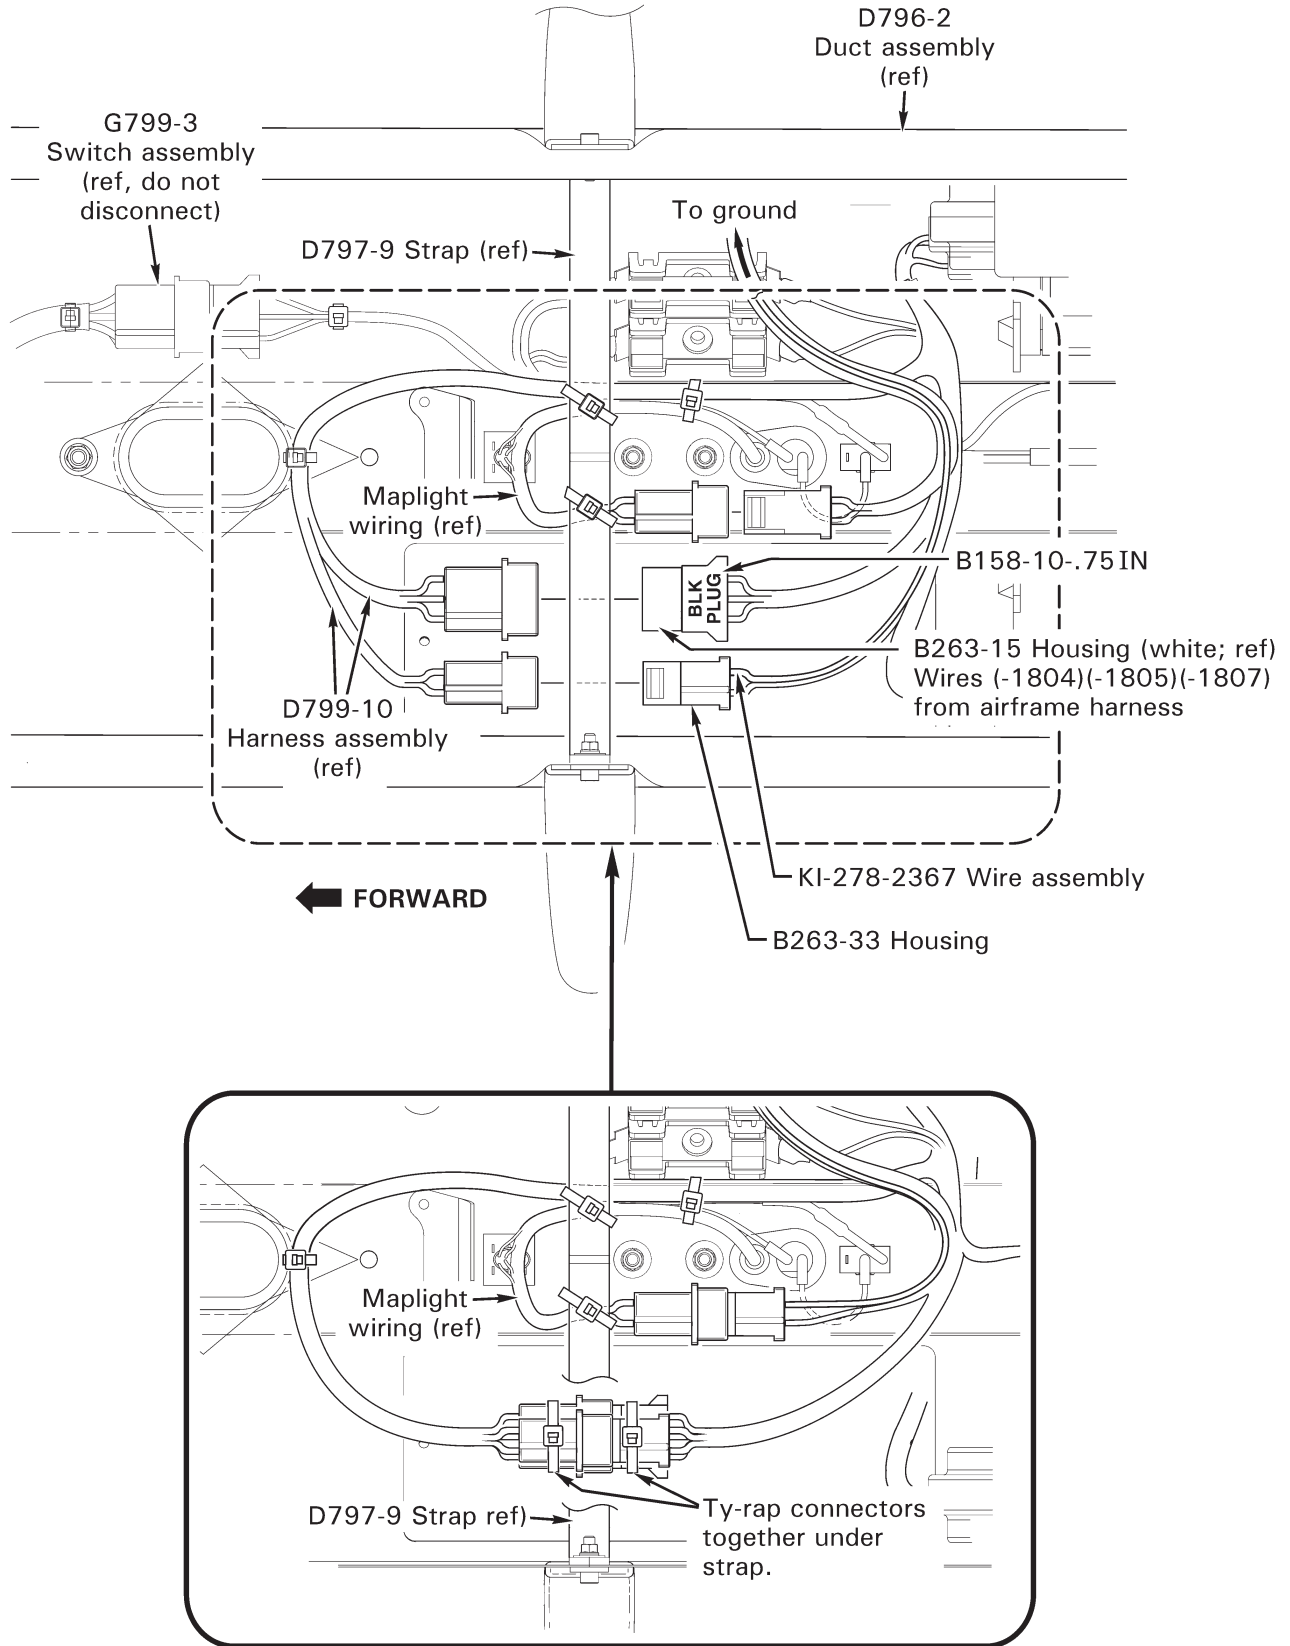

FIGURE 1 Installing D796-2 air conditioning duct
4. Refer to Figure 1. Locate B263-15 (white, 3-socket) housing in airframe harness, containing wires (-1804), (-1805), and (1807). Slide B158-10-.75IN heat shrink over housing and apply heat.
5. Refer to Figures 1 & 2. Strip KI-278-2367 wire assembly end and crimp B263-2 socket on wire. Install socket in position 2 of B263-33 housing (position 1 remains vacant). Verify security of wire.